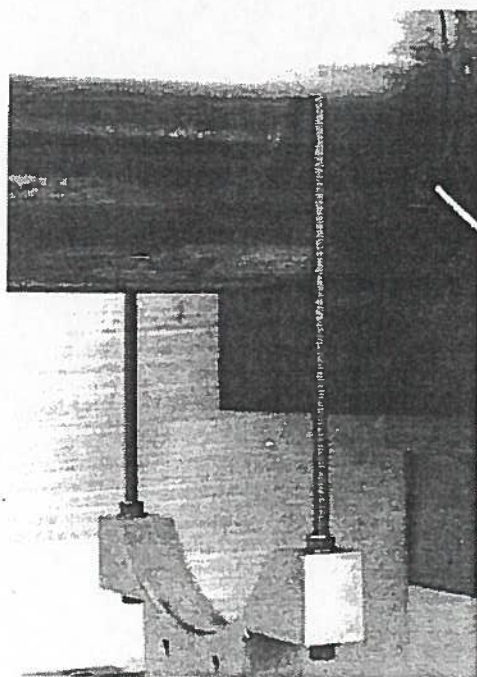

FIG. 25
8. Make sure the master jack is supporting the master arm by raising or lowering the master jack slightly. Release the longitudinal locks on the master jack and slowly pull the manipulator out of the wall tube by rolling the jack along the transport cart rails until the slave rollers on the Model L-HD (Fig. 25) or the slave roller trucks (Fig. 26) for other model types are just in the wall tube and supporting the manipulator. Lock the longitudinal locks on the master jack.